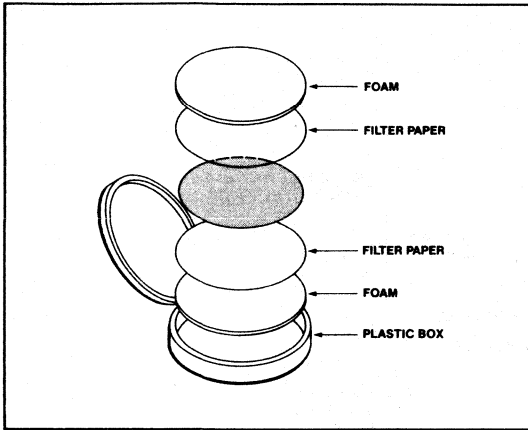

Figure 1. Water Carrier Package
- **Die and wafers are packaged as shown in Figures 1 and 2, respectively.**